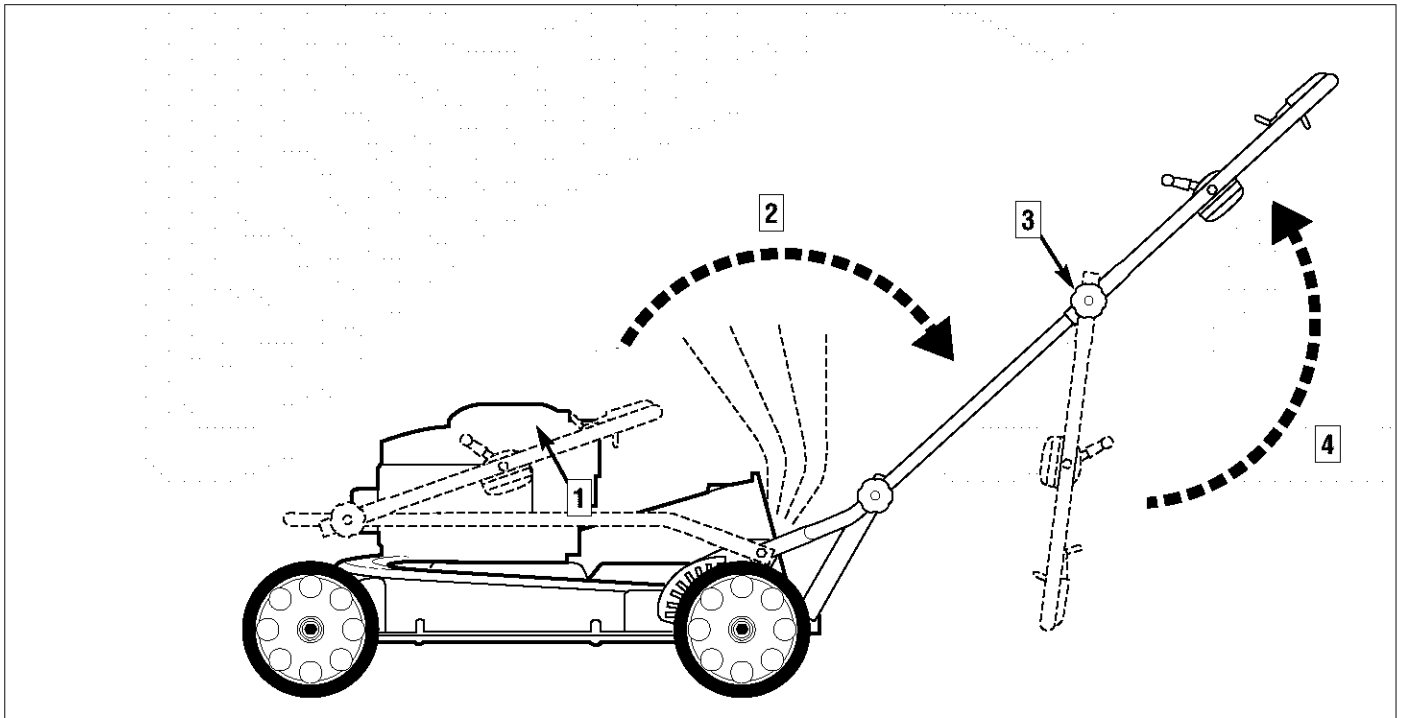

Figure 2-5: Unfolding the handlebar.
1. Loosen the two lower handlebar adjustment knobs (1, Figure 2-5).
2. Carefully unfold lower section of the handlebar assembly (2, Figure 2-5). Watch the cables while unfolding and make sure that they do not pinch, kink, or over-stretch while unfolding.
6. Loosen the two upper handlebar adjustment knobs (3, Figure 2-5).
7. Unfold the upper handlebar assembly (4, Figure 2-5) and align with the lower handlebar assembly. Be sure not to pinch, kink, or over-stretch the cables while unfolding.